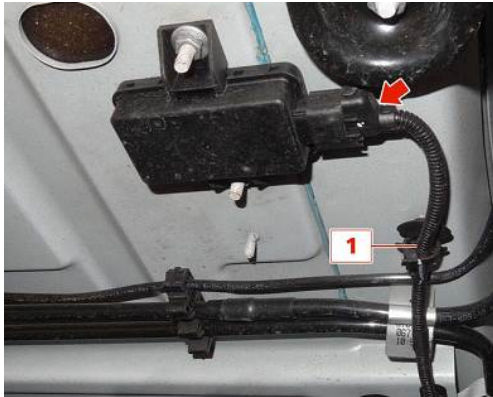

Fig.11
13. On the TPMS sensor, unlock the safety tab and disconnect the wire connector, then release the harness fastener (1 in Fig.11).